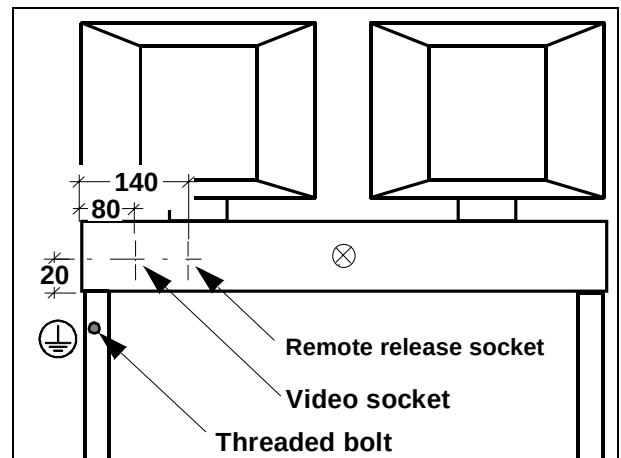
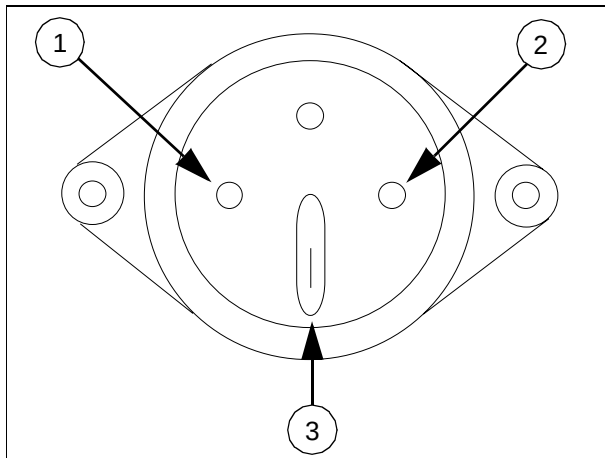

Fig. 2
Fig. 3
- Drill two holes using the dimensions indicated in Fig. 2. The left one should be 17 mm for the video socket and the right one should be 16 mm for the remote release socket.
- Install the video socket according to Fig. 2 in the left hole (isolated).
- Solder the wires to the remote release socket (refer to 1/Fig. 3 and 2/Fig. 3).
- Solder one end of the protective conductor included with the shipment to the remote release socket (3/Fig. 3) and connect the other end to the protective conductor terminal screw (1/Fig. 2).